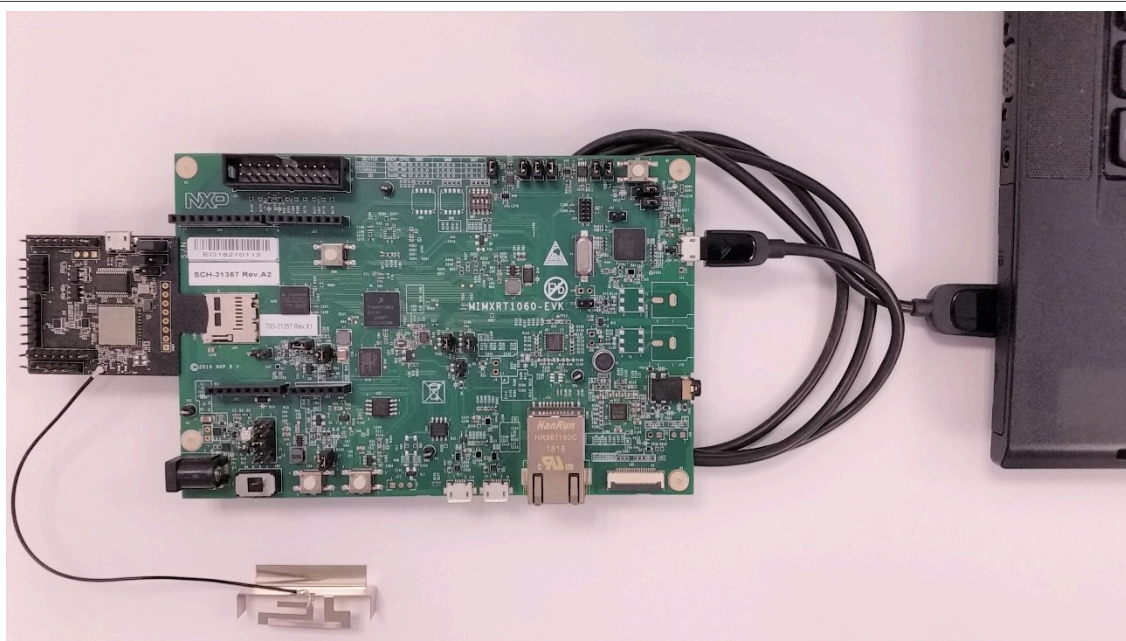

Figure 19. Connection to i.MX RT1060 EVK board and connection of the antenna
- Connect the antenna to the antenna slot of the AW-CM358-uSD adapter board (Figure 19).
- Use a Micro USB to USB cable to connect i.MX RT1060 EVK board to a host computer running Windows, Linux or Mac OS (Figure 19).